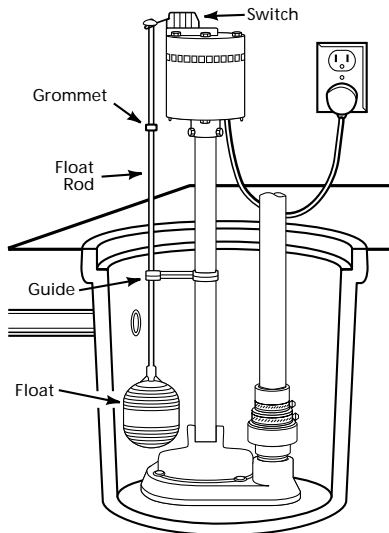

Figure 3 – Sump Installation
3. Carefully snap plastic float rod guide onto pump column and insert float rod into guide. (Figure 3)
4. Using pliers to hold the float rod, screw the float on until tight as shown in Figure 3.
1. Construct a sump pit from concrete, steel, or plastic that is no more than 24" deep and at least 11" in diameter (Figure 3). If the sump already exists, make sure it is the proper size.